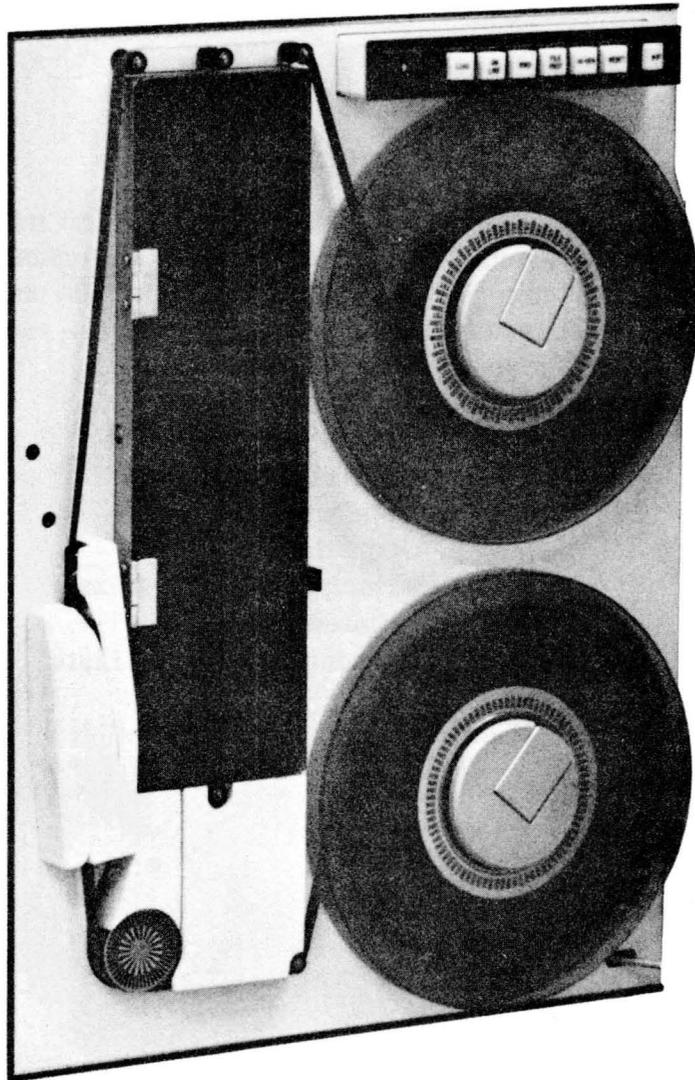

Figure 1-1. Model 2750 Magnetic Tape Unit
The Bright Industries Model 2750 is a highly reliable, dual vacuum column, digital magnetic tape drive. See figure 1-1. The Model 2750 reads and writes data in ANSI and IBM compatible formats using either NRZI or phase encoded (PE) methods. Data is recorded on either 7-track or 9-track tapes at 75 inches per second (ips). A dual speed 37.5/75 ips tape unit is also available. Magnetic tape recorded on the Model 2750 can be read on any other ANSI or IBM compatible tape unit. Also, the Model 2750 can read 7-track or 9-track tapes recorded on any other ANSI or IBM compatible tape unit. The tape unit uses maximum 10-1/2 inch diameter tape reels.